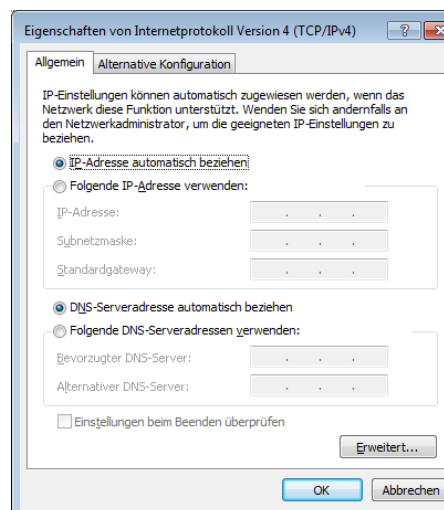

Figure 3
- The chart (figure 3) appears when the network and a DHCP server are available.